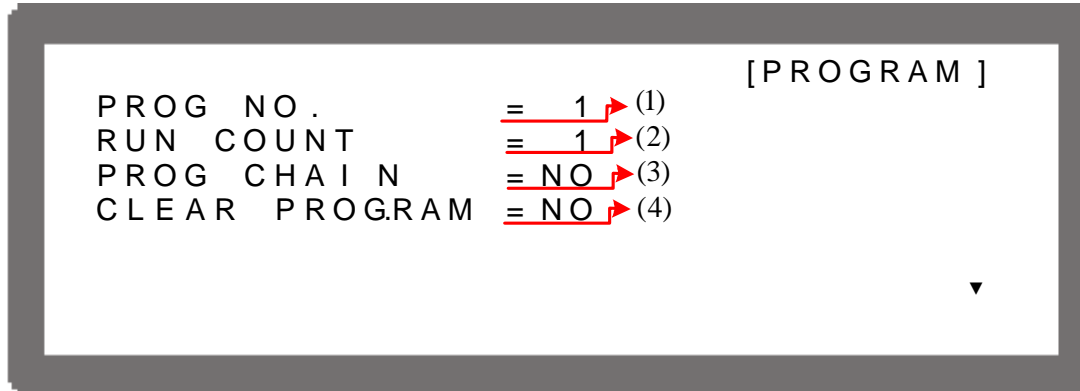

Figure 4-3
1. Use the “”, “” keys to move the cursor to the column to be set as Figure 4-3 (2) shows.
1. Use the “”, “” keys to move the cursor to the column to be set as Figure 4-3 (3) shows.
1. Use the “”, “” keys to move the cursor to the column to be set as Figure 4-3 (4) shows.
- a. In the PROGRAM page (Figure 4-3), if the PROGRAM has no SEQUENCE when the cursor is at (4), pressing the “**→↓**” can add a new SEQUENCE. The page will skip to Figure 4-8.